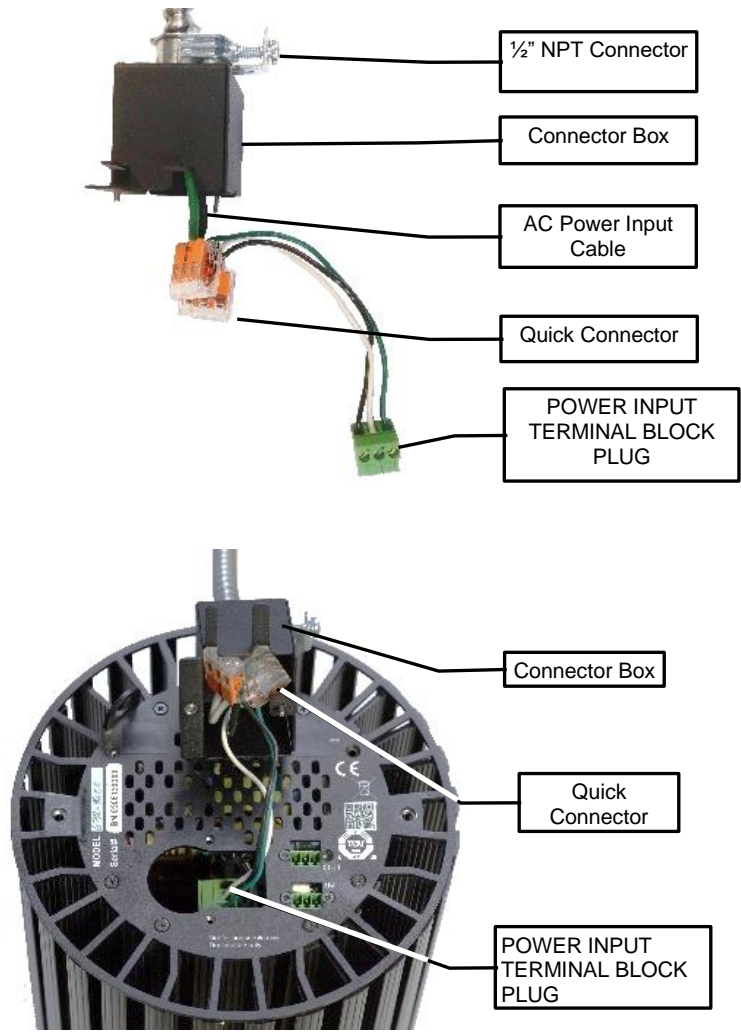

Figure 4: Power cable connection
1. A Connector Box is provided with the fixture (Figure 4), and is not attached to the fixture. The Connector Box must be mounted as described in the following steps.
4. Insert the power cable with the appropriate ½" NPT Connector or Cable Strain Relief through the Connector Box (Figure 4). The hole on the connector box has a Suitable dimension to attach a ½" NPT connector on it. The Power Input Terminal Block Plug has three soft wires attached to it. Attach the provided wires to the wiring for the AC power input cable with Quick Connectors or Marret Connectors (Figure 4).
5. Put the Quick / Marret Connectors inside the Connector Box. Plug the wired Terminal Block Plug into the Power Input Terminal Block Header (Figure 4).